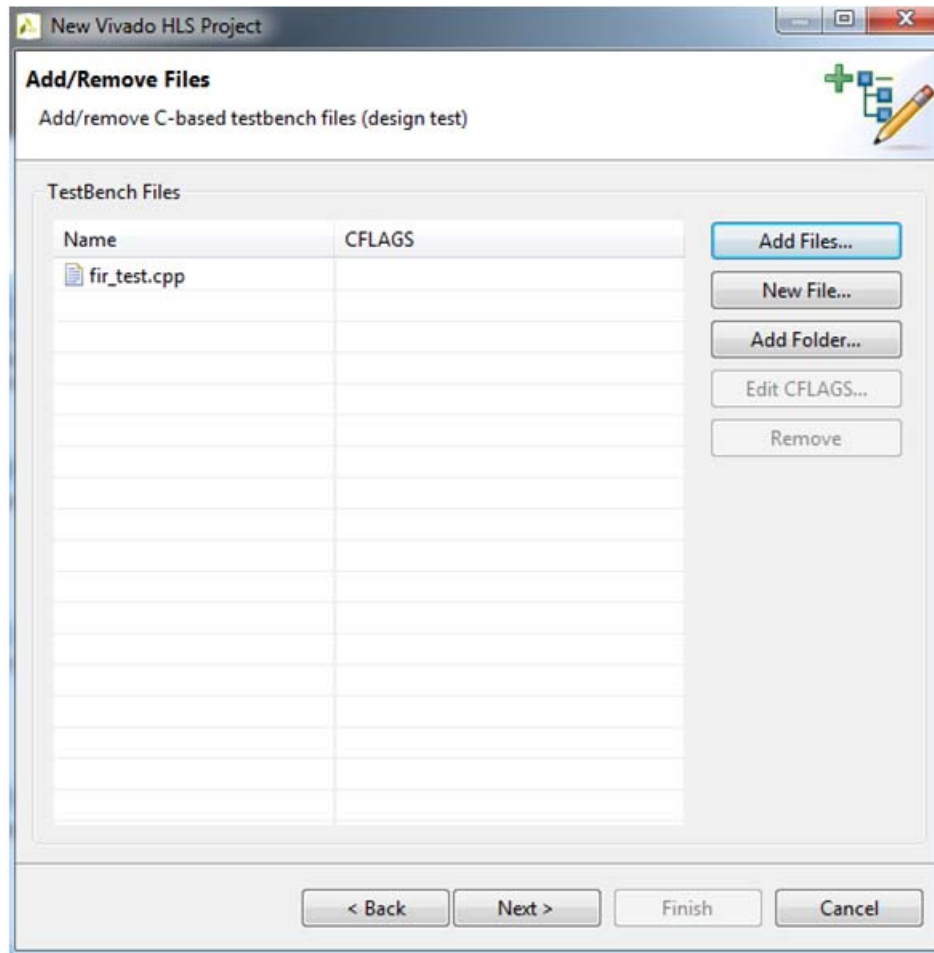

Figure 3-4: Add Testbench Files
5. Click **Next** to add the file `fir_test.cpp` (Figure 3-4).